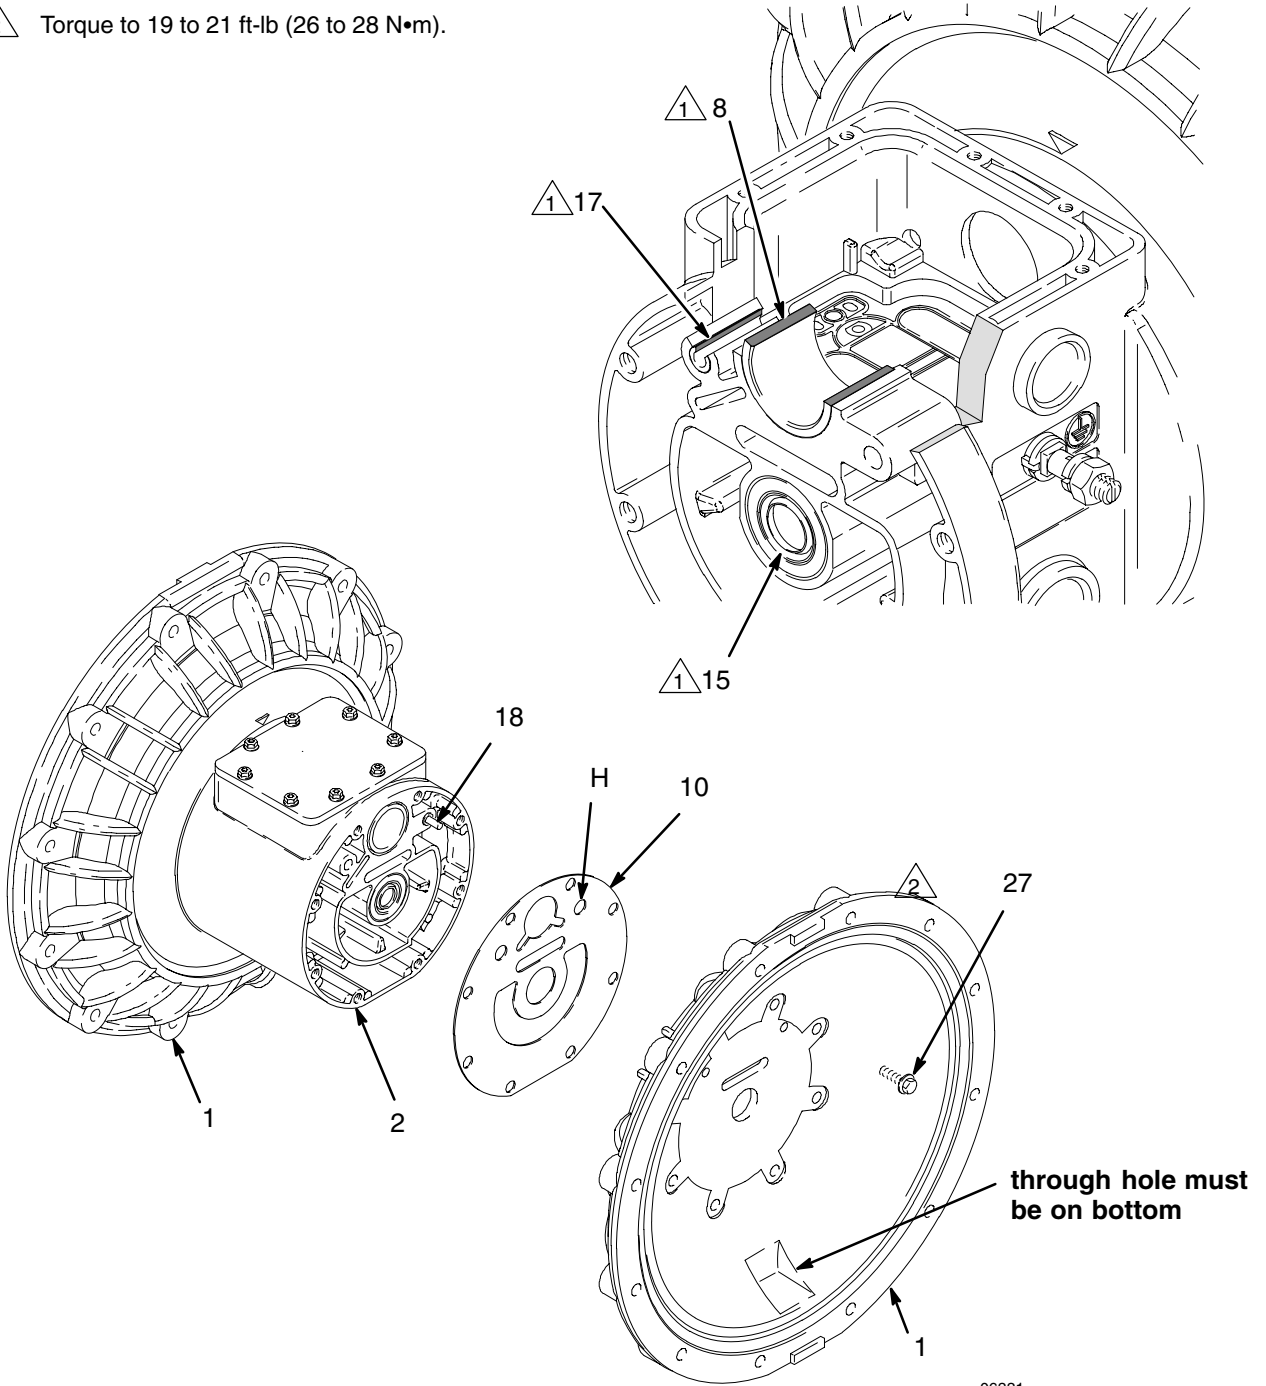

Fig. 9
## Removing and Replacing Bearings and Air Gasket (See Fig. 9)
- NOTE:** If you are removing only the diaphragm shaft bearing (8), skip step 4.
5. Using a 13-mm socket wrench, remove the screws (27) holding the air covers (1) to the center housing (2). See Fig. 9.
6. Remove the air cover gaskets (10). Always replace the gaskets with new ones.
7. Use a bearing puller to remove the diaphragm shaft bearings (13), piston actuator bearings (8), and push pin bearings (17). Do not remove any bearings if they are not damaged.